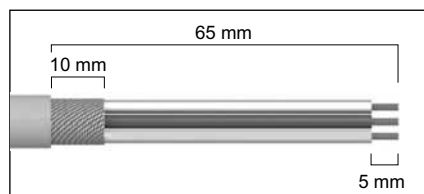

Fig. 3 Preparation of Modbus cables
2. Prepare Modbus cable(s) as shown in fig. 3.